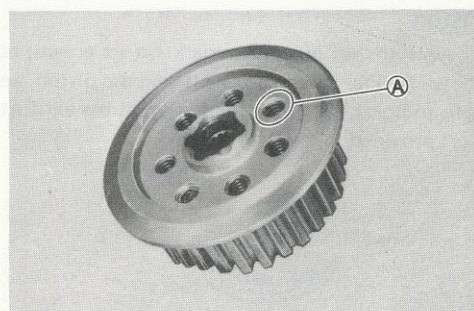

Fig. 96. Clutch springs in the hub
**NOTE:** The spring **A** shown in Fig. 96 illustrates the case of a spring protruding from the surface.